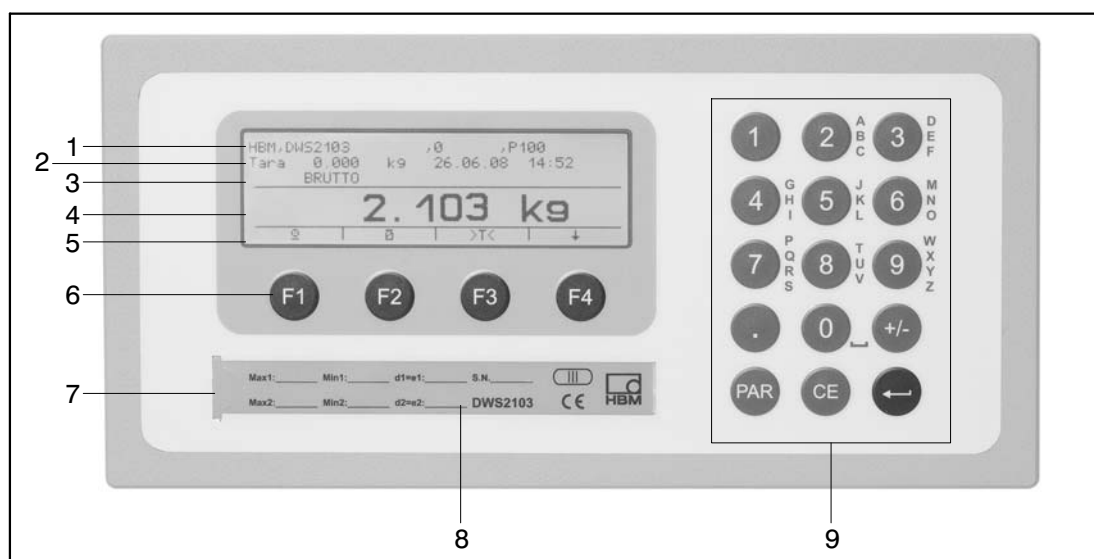

Fig. 6.1: DWS2103 front panel
- Hidden pushbutton for access to the calibration menu (see Fig. 6.1).